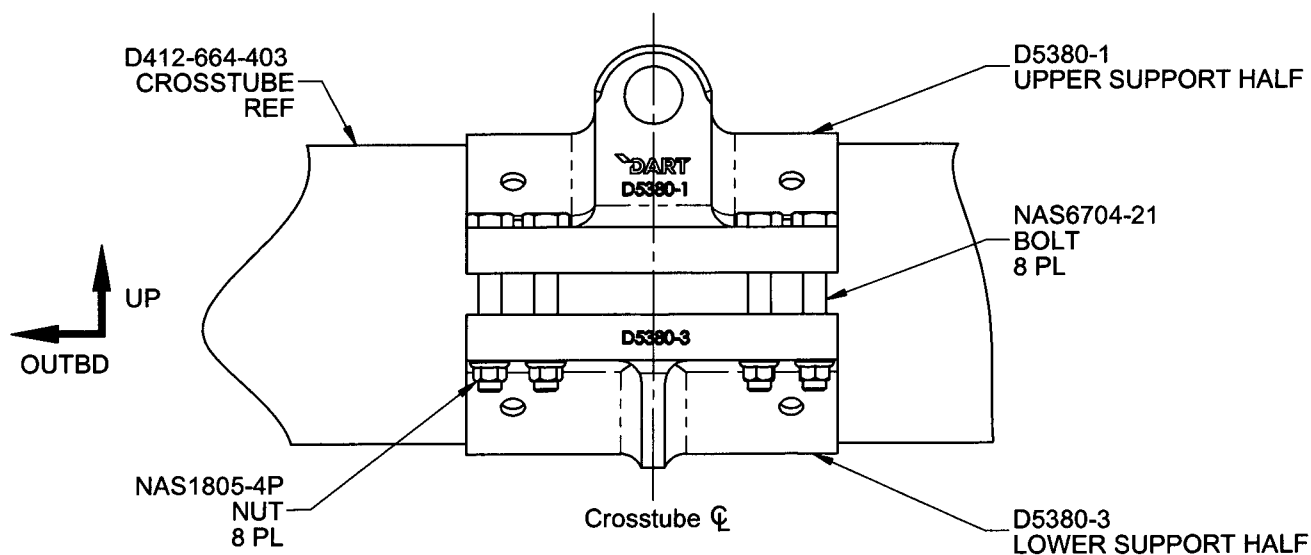

Figure 2 - Support Installation
- 2.7 Locate area on the crosstube for installation of D5380-1/-3 Heavy Duty Support Assembly with reference to Figure 2.
- 2.11 Align the bolts with the holes on D5380-3 Lower Support Half and install onto the crosstube, reference Figure 2.